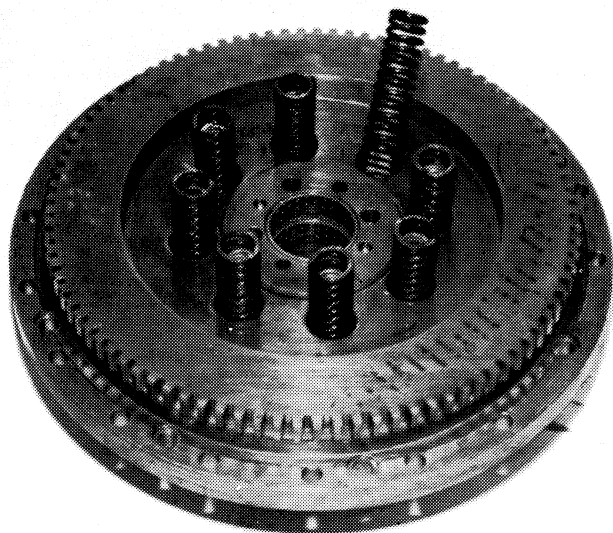

Figure 6-17. Clutch Release Springs.
17. Remove the clutch release springs. See Figure 6-17.